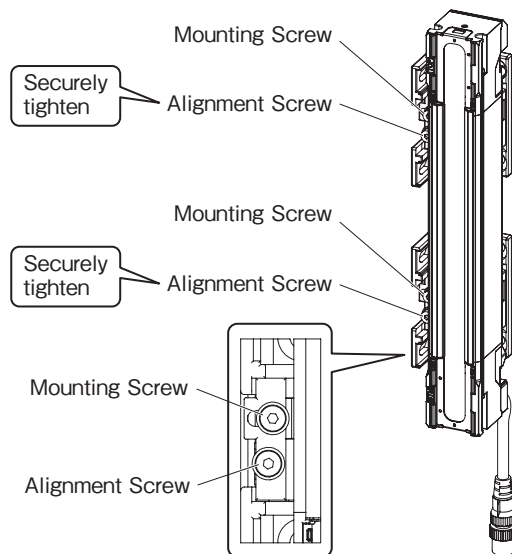

Fig. 6
5. Securely tighten the Alignment Screws to fix the Adjustable Side-Mount Bracket to the sensor housing. The recommended torque to tighten the Alignment Screws is 3.0 N•m. (Fig. 6)